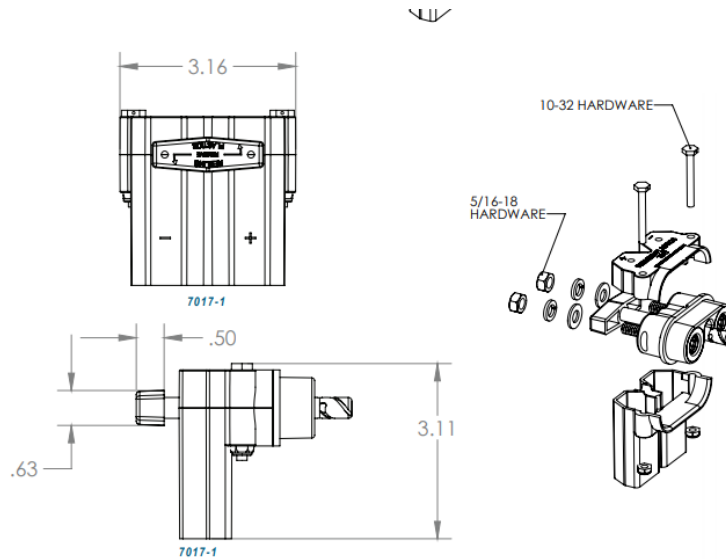

Figure 3 Quick Disconnect 7017-1
8. To install new connector (7017-1) shown in Figure 3, use a 3/8" wrench and 3/8" socket with ratchet to remove the two bolts on each side of the connector. This will allow the removal of cover.